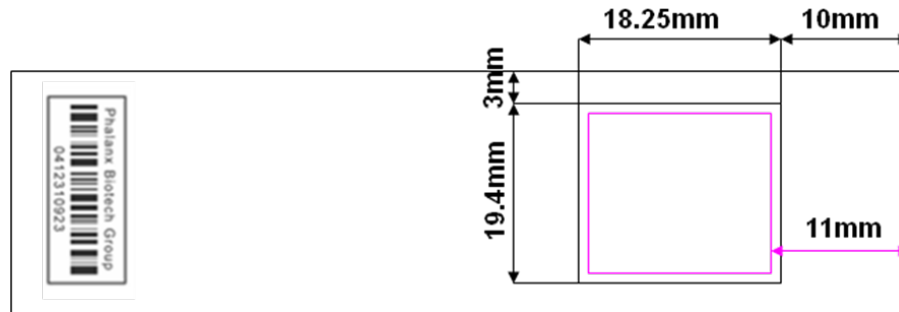

Figure 1: Mouse & Rat miRNA OneArray[®] Microarray Glass Slide with “Probe Printed Region Guide” Plastic Underlay. (One array per slide)
- 5) Place the Mouse & Rat miRNA OneArray[®] slide, bar code up, atop the “Probe Printed Region Guide” (included, see Figure 1).